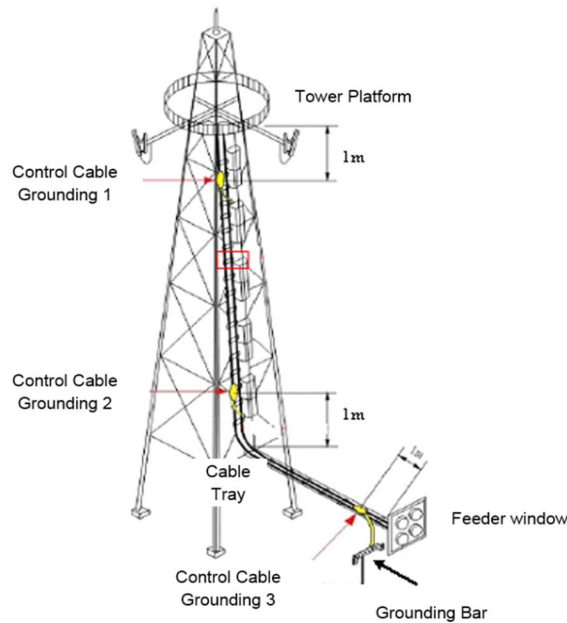

Figure 10
- b) Control cables metal sheath should be clamp to grounding kit within 1m of antenna, 1m within the cable tray at the bottom of the tower, and 1m before entering base station shelter. Make sure grounding cable is installed property, feeder window of the shelter room should be close to the ground and properly connect to the grounding bar that leads to the ground. (See Figure 10)